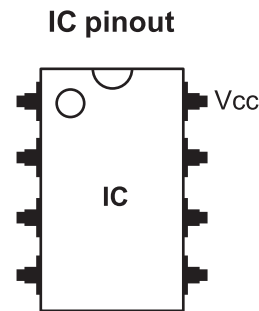

Figure 5
- f. On the IC diagram, Figure 5, on the previous page, number all the pins of the IC 1 to 8. 2 marks